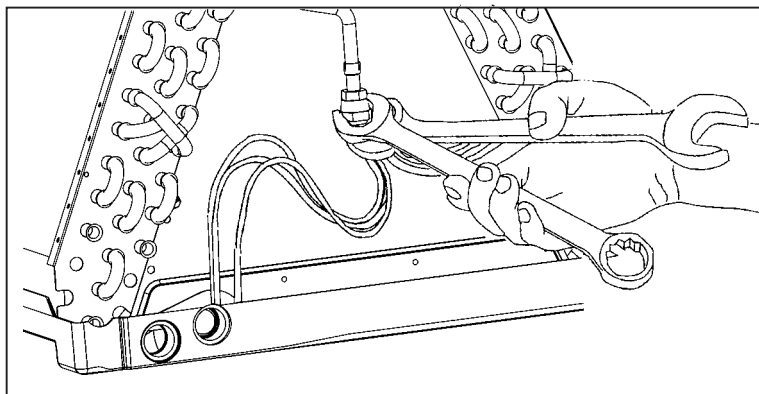

Figure 3. Wrenches on Distributor Body and Assembly Nut
1. Loosen the orifice/distributor body halves by applying two wrenches and squeezing them together, as shown in Figure 3, to turn the assembly nut counter-clockwise.